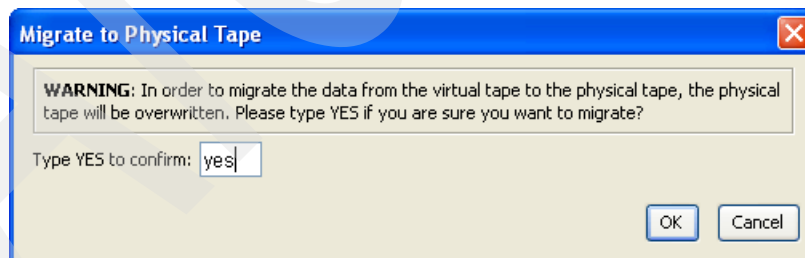

Figure 12-50 Manual migration verification
2. The TS7530 presents a verification window, as shown in Figure 12-50. Type yes to confirm and click **OK** to continue.